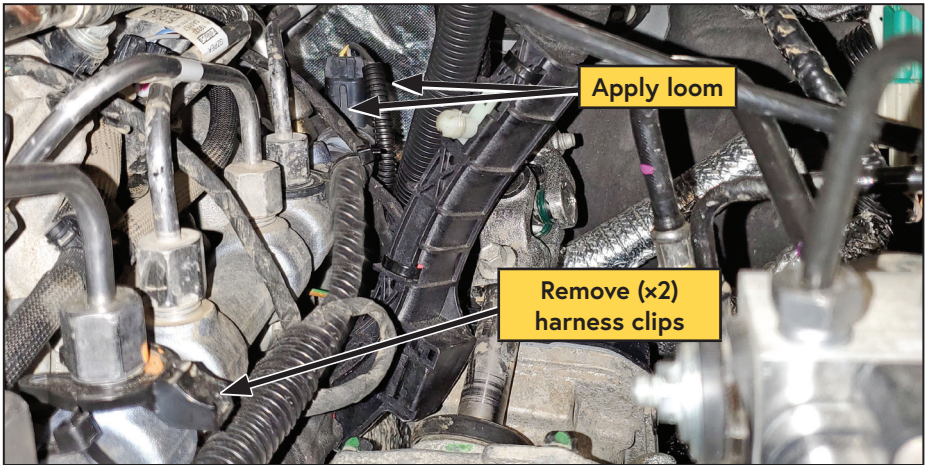

Figure 12 — Remove the primary drain-back hose
- ☐ Using the supplied 1/2 in loom, cover the section of harness (Figure 12).
- ☐ Using the supplied 1/4 in loom, cover the small sections of harness at the rear of the engine (Figure 12).